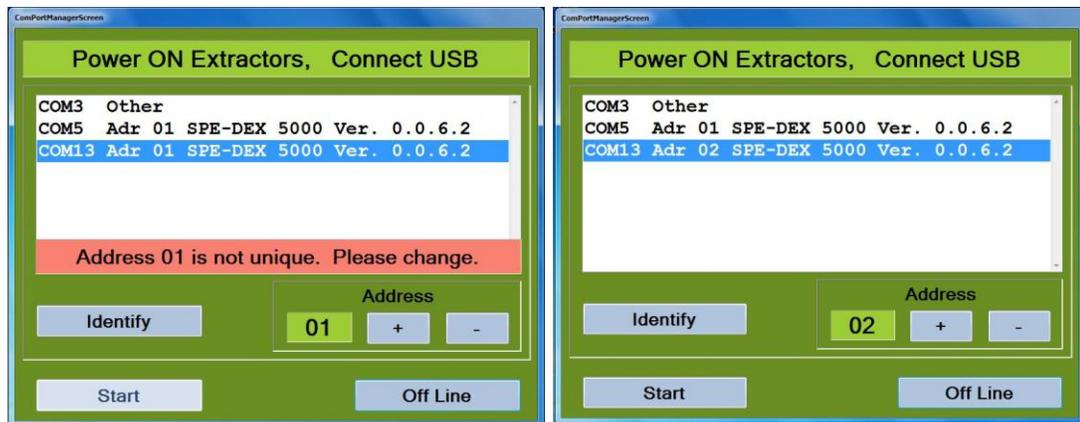

Figure 5-10. Communication Port Manager Screen with Conflicting Address and Resolution
Step 6: Review the Communication Port Manager screen. It should show at least one communication port with an address (Adr 1 in the example in Figure 5-10) and the module firmware version.